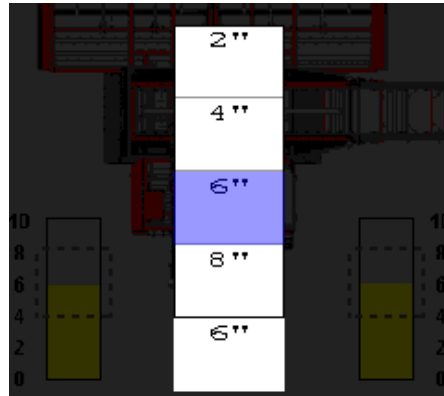

Figure 124—Axle Setpoint Pop Up List
- **D—Scrolling Arrows:** The scrolling arrows allow you to scroll through the alarm list for selection (Figure 124). The alarm highlighted in red is the alarm that will be selected for more information.